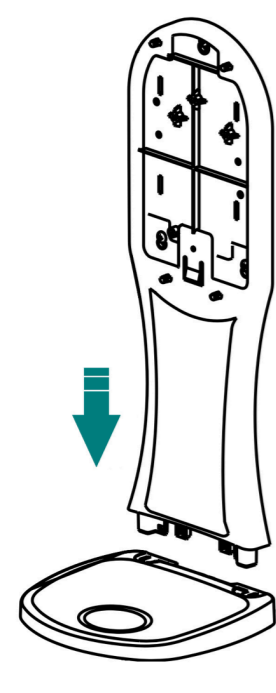

FIG. 1
Step 1 Firmly insert the backsplash into the grooves of the drip tray (FIG. 1).